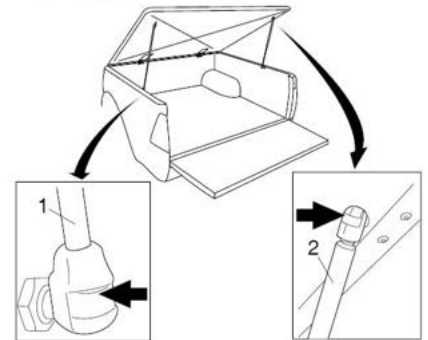

FIGURE 6
2. Attach gas struts (2) by clipping into place. Ensure narrow end (1) mounts to the vehicle. Refer to figure 6.